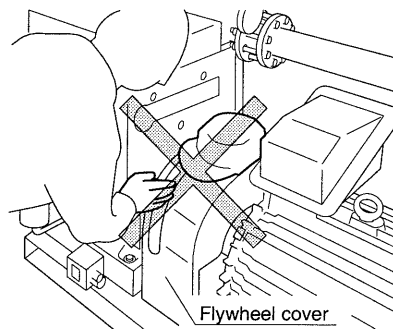

Fig. 1
* *Do not put the hand or a part of the body in the flywheel cover while the motor is rotating. Do not put any substance on the flywheel cover. (Fig. 1)*